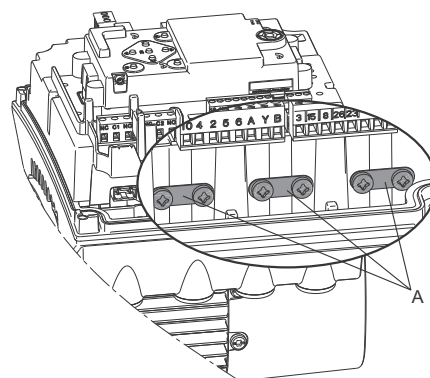

Fig. 49 Connecting cable screens to earth
8. Connect the cable screens of the bus cables to earth via one of the earth clamps (fig. 49, pos. A).